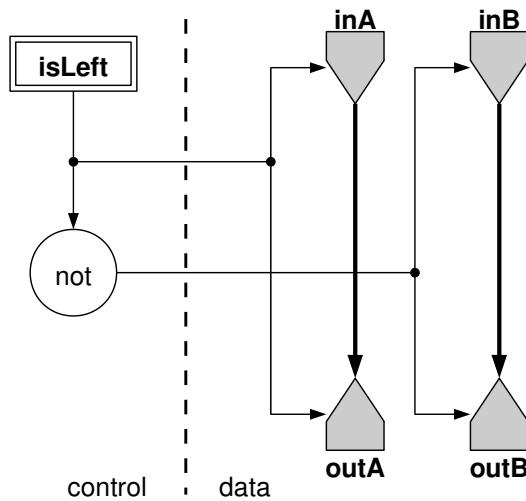

Figure 45: Kernel for the simple MaxRing loopback
*Figure 45* shows the resultant Kernel graph for the example.